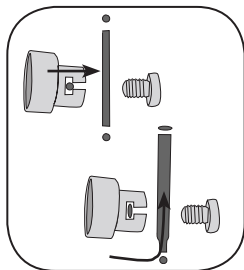

Figure 7- Installing magnet on round or oval spokes
The wheel magnet has a "T" shaped slot with two configurations: round spokes and flat or bladed spokes (Figure 7).
*For a flat or bladed spoke, start the spoke near the end where the spoke is round, and align the top of the 'T' with the spoke as you slide the magnet up the blade (Figure 7).*